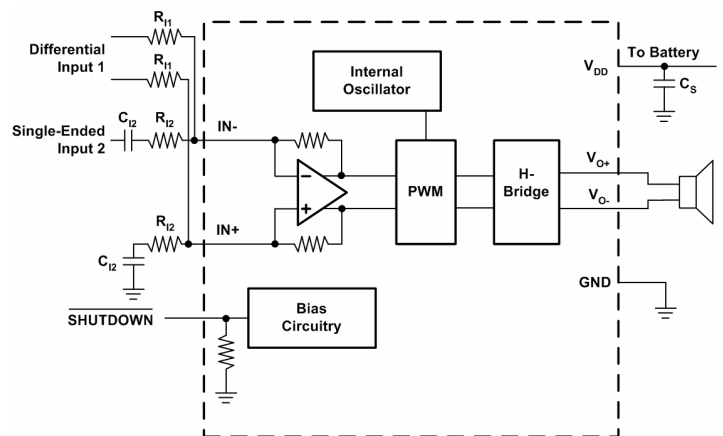

Figure 34. Application Schematic with EUA2011 Summing Input and Single-Ended Input Signals
Figure 34 shows how to sum a differential input signal and a single-ended input signal. Ground noise can couple in through $IN+$ with this method. It is better to use differential inputs. The corner frequency of the single-ended input is set by C_{I2} , shown in equation (8). To assure that each input is balanced, the single-ended input must be driven by a low-impedance source even if the input is not in use